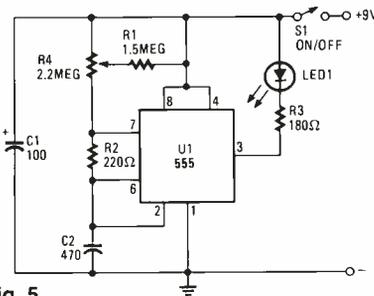

Fig. 5
G. T., of Ft. Lauderdale, FL, asks for an enlarger timer that he can build. Nothing to it, G.T., check the schematic diagram in Fig. 5. Naturally, we're going to be using a 555 timer for this circuit. It radiates a light pulse from an LED at one-second intervals. What could be better in the darkroom?